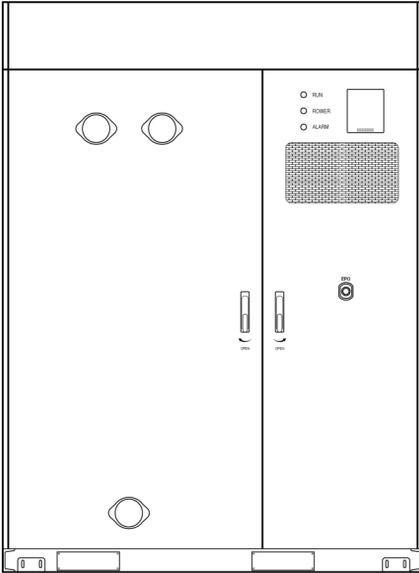
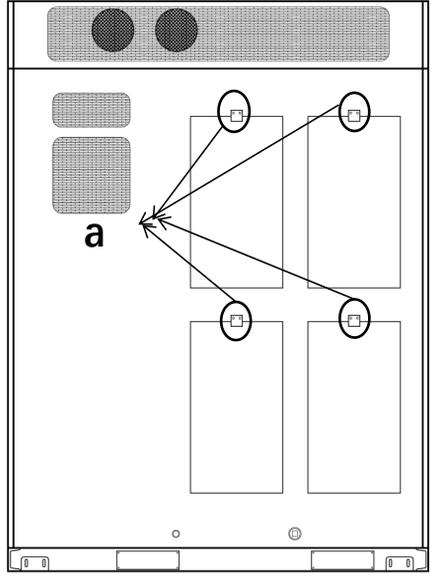

Figure.1-1
Figure.1-2
1. Locate four mounting holes, 2 holes on the front of the cabinet (Figure.1-1) and others on the back(Figure.1-2).
5. Remove the 4 items (a) shown in the Figure.1-2.